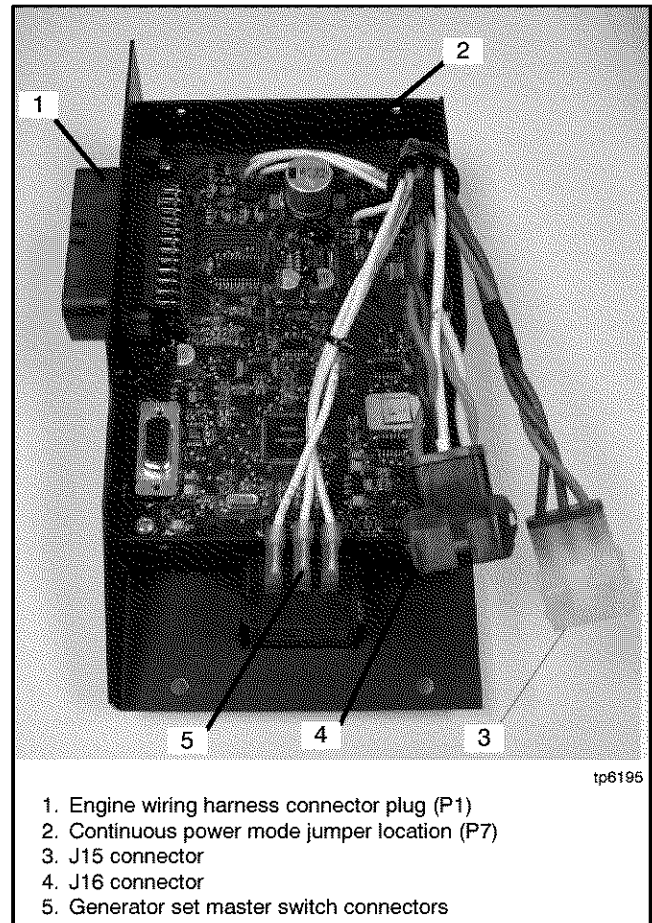

Figure 6-14 Advanced Digital Control Connections
- a. Disconnect the engine wiring harness connector P1 plug (35-pin) from the controller. Disconnect the J15 and J16 connectors. See Figure 6-14.
- a. Note the labels on the three leads connected to the generator set master switch for reconnection later. Disconnect the leads at the pink connectors. See Figure 6-14.
- b. Remove the cover screws and remove the controller's back cover. See Figure 6-14.
4. Locate the P7 connector near the top of the controller. See Figure 6-14. Remove the jumper from pins 1 and 2 of the P7 connector. If the P7 connector has three pins, connect the jumper across pins 2 and 3 for storage.